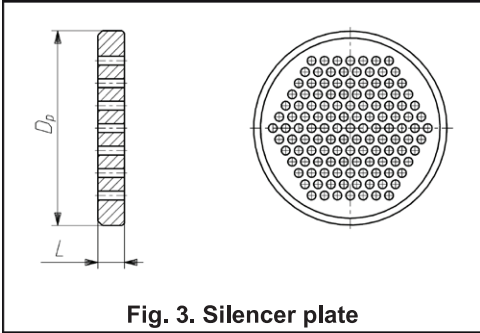

Fig. 3. Silencer plate
- silencer plates on the valve outlet and/or inside the reduction joint (fig. 3, 4 and tab. 8)